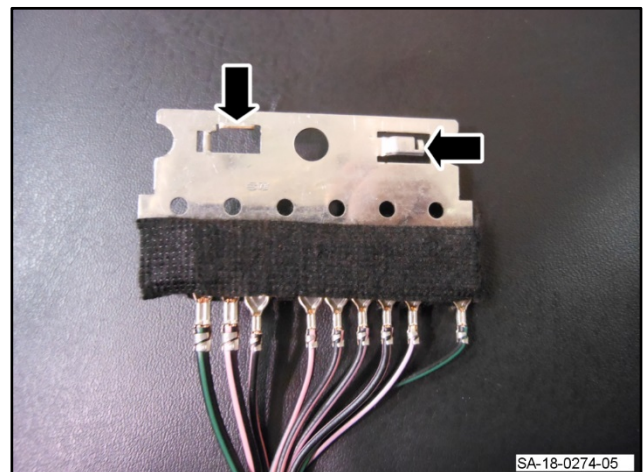

Figure 5
5. The ground plate has raised tabs on one surface (refer to Figure 5).